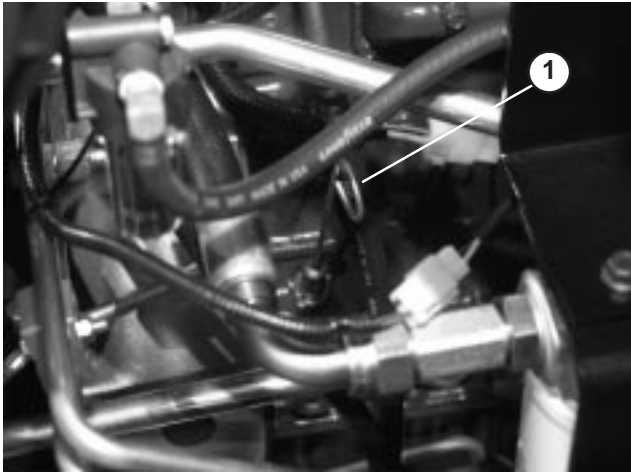

Figure 13
2. Remove dipstick (Fig. 13), wipe clean and reinstall dipstick. Pull it out again and check oil level on dipstick. Oil level should be up to FULL mark on dipstick.